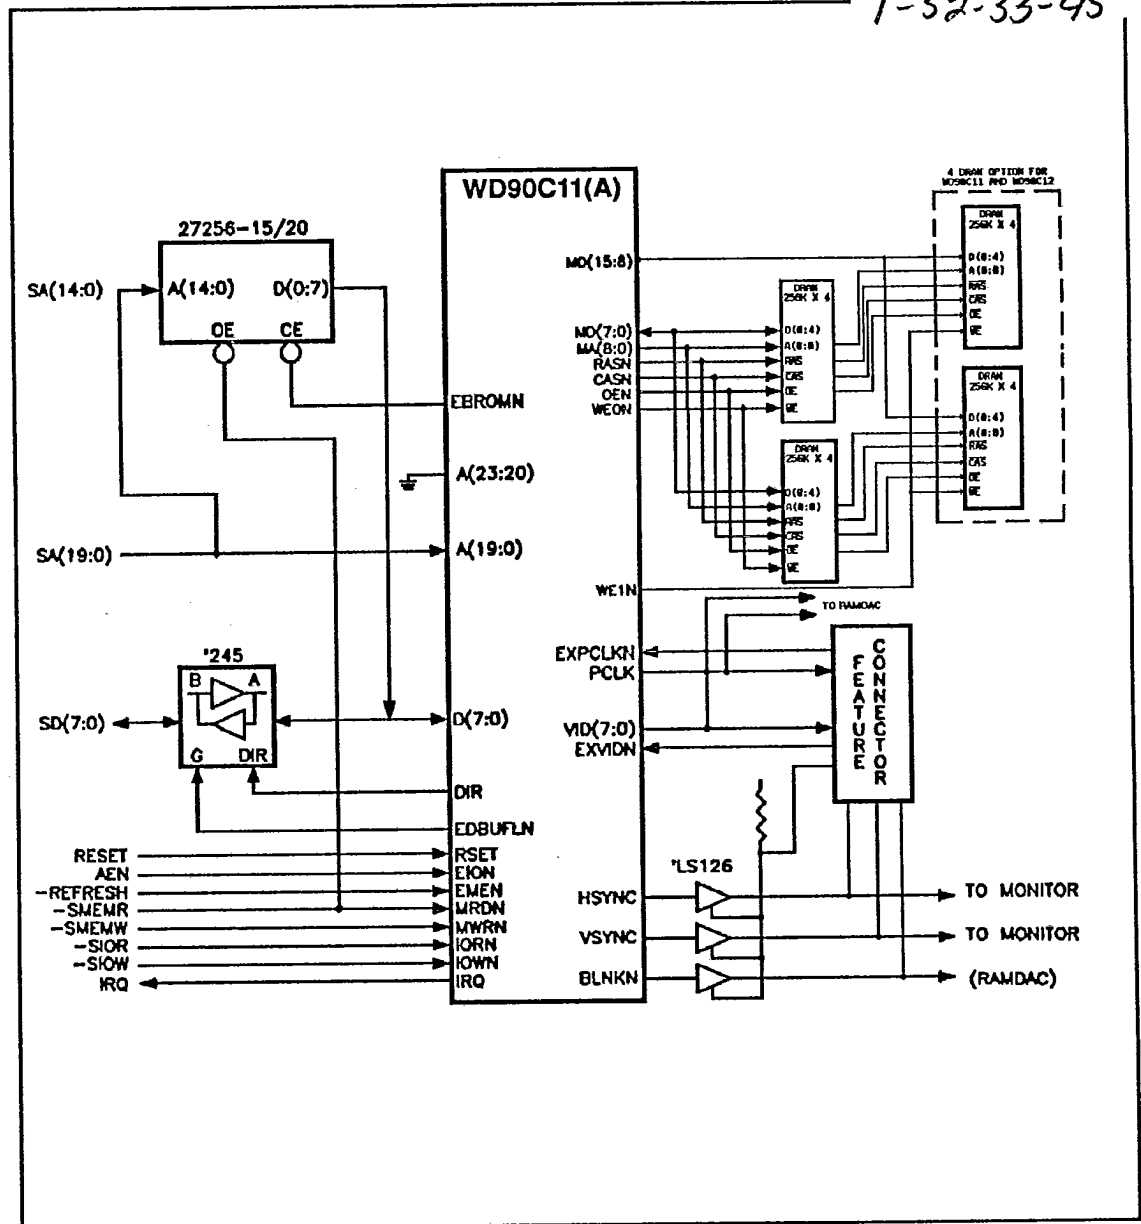

FIGURE A-2. 8-BIT PC AT INTERFACE WITH 8-BIT BIOS
Figure A-2 shows a block diagram of the WD90C11(A) with 8 bit PC/AT interface using 8 bit BIOS. The system data bus SD(7:0) and address bus SA(19:0) are shown along with associated buffers and BIOS ROM.